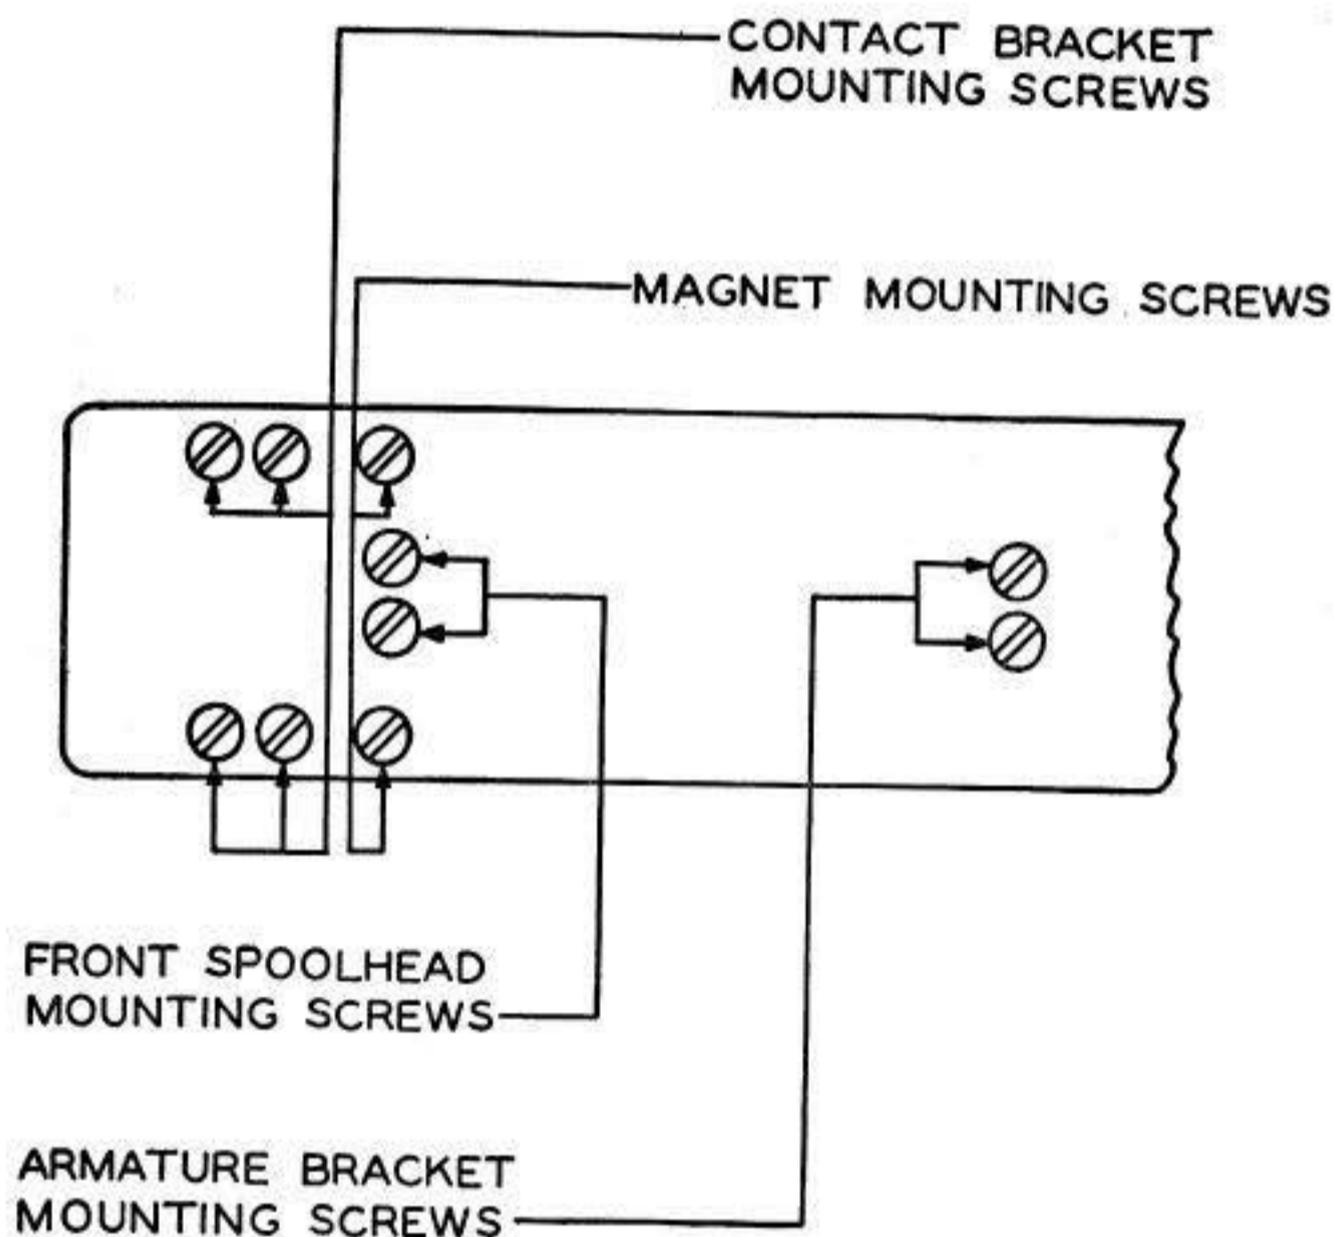

Fig. 9—Frame of 215-type and 255A Relays
- (1) Insert the armature in the coil with the contacts in line with the contact screws.
- (2) Put in and tighten the armature support-screws.
- (3) If the armature is old-style, so that the terminals had to be removed to take it out, remount the terminals.
- (4) The armature should be centered between the pole-piece screws.
- (a) To adjust, loosen the two pole-piece mounting-screws and the two armature-bracket mounting-screws. Move the armature bracket. Tighten the two pole-piece mounting-screws. **Fig. 9**
- (5) The armature should be approximately centered in the coil.
- (a) To adjust, loosen the two front spoolhead mounting-screws and move the coil. Tighten the four screws holding the spool to the base (frame) of the relay. See Fig. 9 for identification of parts.
- (6) Put in the contact screws. **Fig. 9**
- (2) Tighten the armature-clamp mounting-screws.
- (3) The armature should be centered between the pole-piece screws.
- (4) The armature should be approximately centered in the coil.
- (5) Put in the contact screws. **Fig. 9**